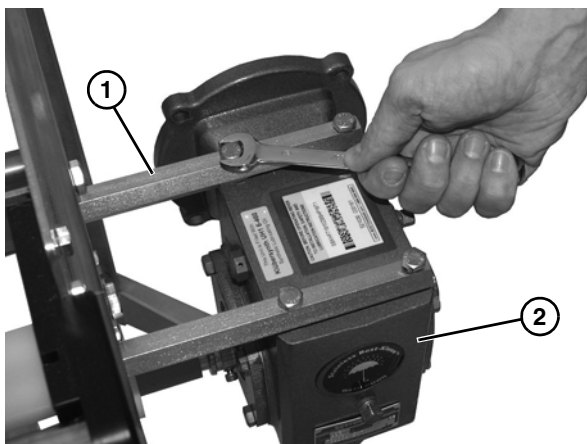

Figure 15
5. Unbolt the gear reducer hex mounting posts (**Figure 15, item 1**) from the gear reducer (**Figure 15, item 2**).